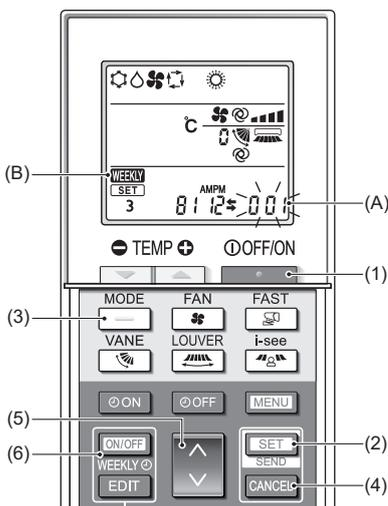

Fig. 5-12
#### 5.12.8. How to disable Auto mode operation (Fig. 5-12)
1. Press the **STOP** button (1) to stop the air conditioner.
- If the weekly timer is enabled, press the **ON/OFF WEEKLY** button (6) to disable the timer. (**WEEKLY** (B) disappears.)
2. Press the **SET** button (2) for 5 seconds.
- The unit enters the function setting mode. (The group model setting number (A) blinks.)
3. Press the **DOWN** button (5).
4. Completing the settings (Fig. 5-12)
- Press the **SET** button (2) for 5 seconds.